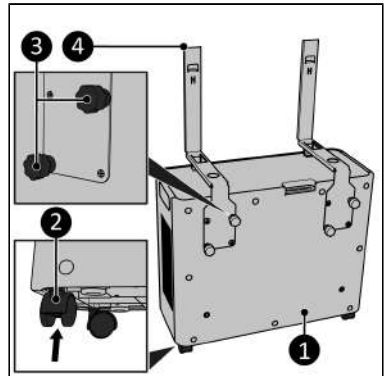

Figure 36.
2. Attach the wheels (Figure 36, pos. 2) to the outdoor unit (Figure 36, pos. 1) by pushing them into the holes on the bottom of the outdoor unit.
3. Attach the indoor brackets (Figure 36, pos. 4) to the outdoor unit (Figure 36, pos. 1) by tightening two screw caps per bracket (Figure 36, pos. 3).